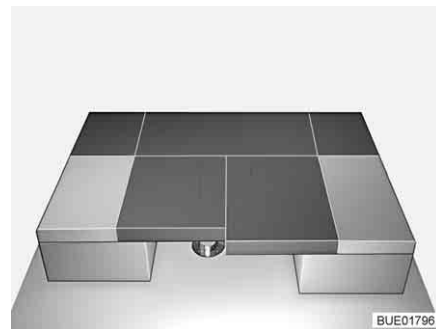

Fig. 100 After conversion
- Press the two seat cushions between the back cushions (see Fig. 100).